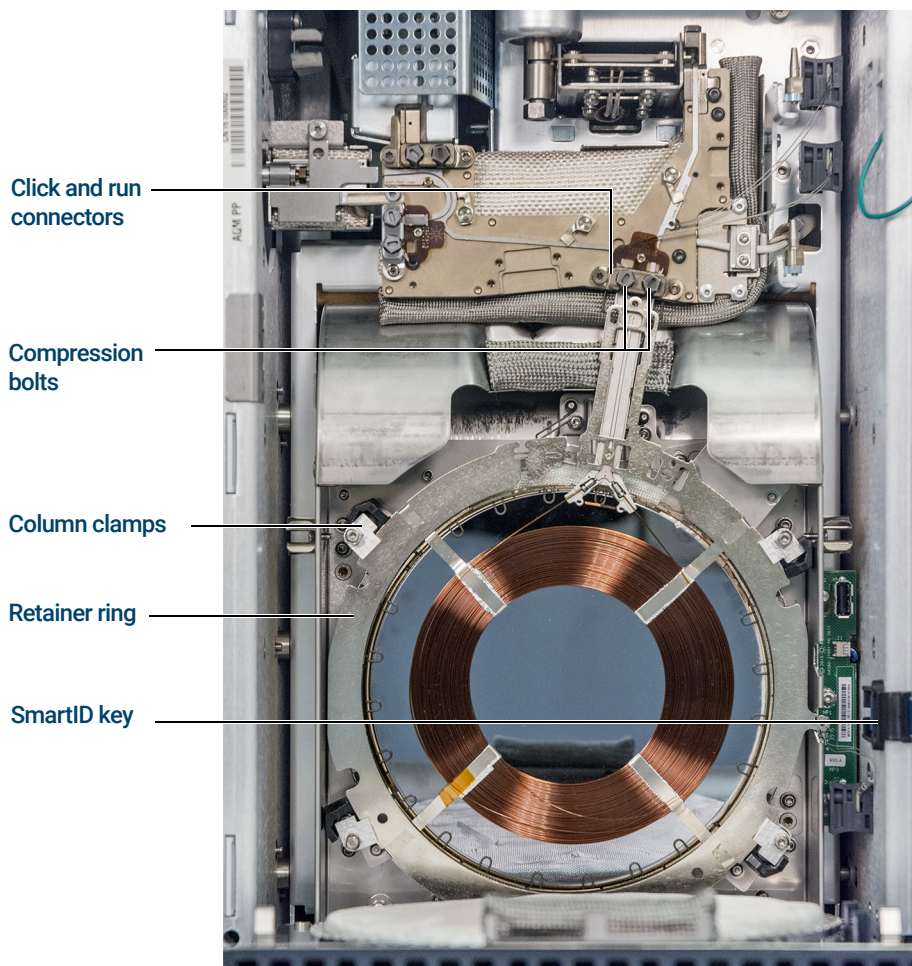

Figure 10. 9000 GC column and related parts
- 7 Using the Intuvo torque driver, rotate all four column clamps off the column's retainer ring. (See **Figure 10**.)